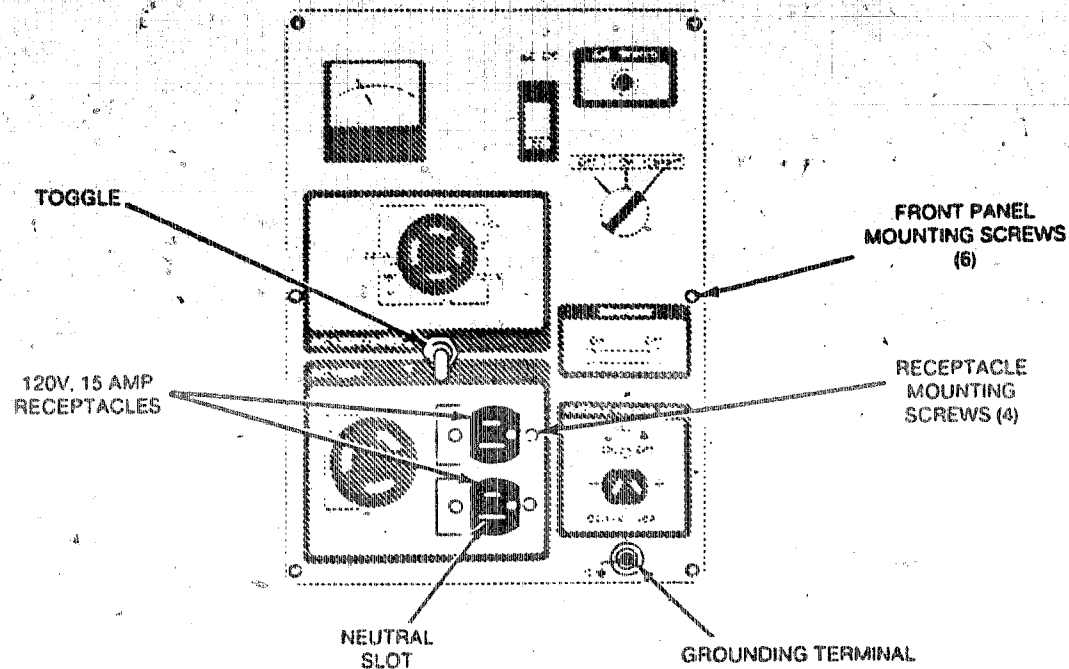

FIGURE 1. FACEPLATE
3. Connect the ground lead of an ohmmeter to the grounding terminal on the control box (Figure 1).
2. Remove the six faceplate mounting screws (Figure 1).
4. Remove the four mounting screws that hold the receptacles in place (Figure 1).